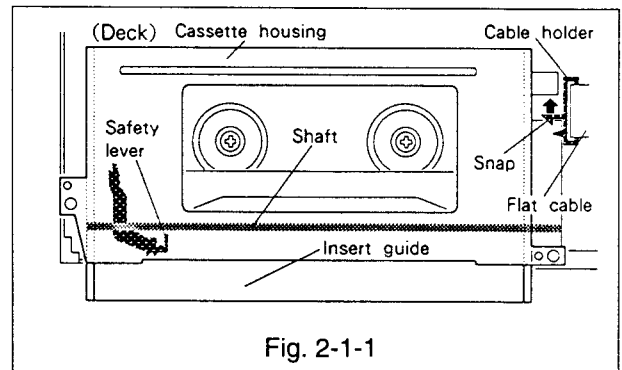

Fig. 2-1-1
2-1-1 Removal(Refer to Fig. 2-1-1~2-1-2.)
- Unfasten the snap of the cable holder and remove the cable holder from the cassette housing as shown in Fig. 2-1-1.
2-1-2 Installation(Refer to Fig. 2-1-1~2-1-3.)
- Slowly lower the cassette housing onto the main plate of the deck so that the safety lever enters between the insert guide and the shaft as shown in Fig. 2-1-1. Align the two positioning holes [(e) and (f)] and the two U holes [(g) and (h)] located on the cassette housing with the matching holes in the deck.